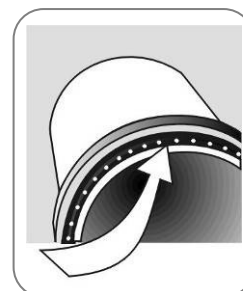

Figure 10
10. Reassemble the filter lid and tighten the clamp. (Figure 10, 11)